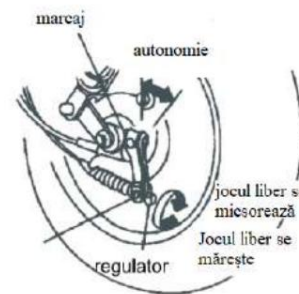

Figure 3-2
(1) The adjustment of the clearance between the front and rear brakes is shown in Figure 3-2. If the brake does not operate smoothly, it is necessary to adjust the nuts on the adjuster in the direction indicated by the arrow marked "free play decreases" in the figure (generally, the adjustment should be within the range of 1-3 turns). If the wheel feels like it is braking (there is friction between the brake drum and the brake shoes), it means that the brake cable is adjusted too tightly, and the adjustment of the nuts on the adjuster should be made in the direction indicated by the arrow marked "free play increases" (generally, within the range of 1-3 turns).